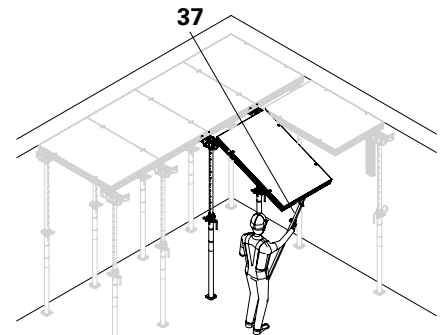

Fig. D2.14b
2. Push the DP panel (10) upwards using the DUO shuttering aid (37) and set it down on the shuttering aid. (Fig. D2.14b)